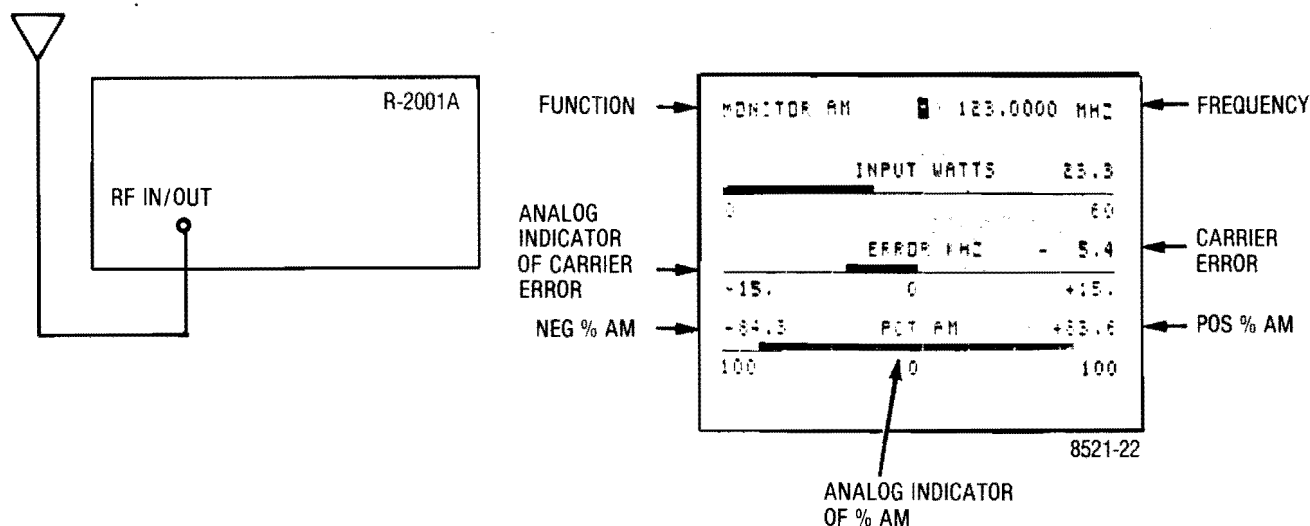

Figure 4-4. System Analyzer Time Base Calibrate Test Setup and CRT Display
**4-7. CALIBRATE.** The Communication System Analyzer may be calibrated to WWV or other time/frequency standards (figure 4-4). To calibrate the unit's time base (frequency standard) proceed as follows: